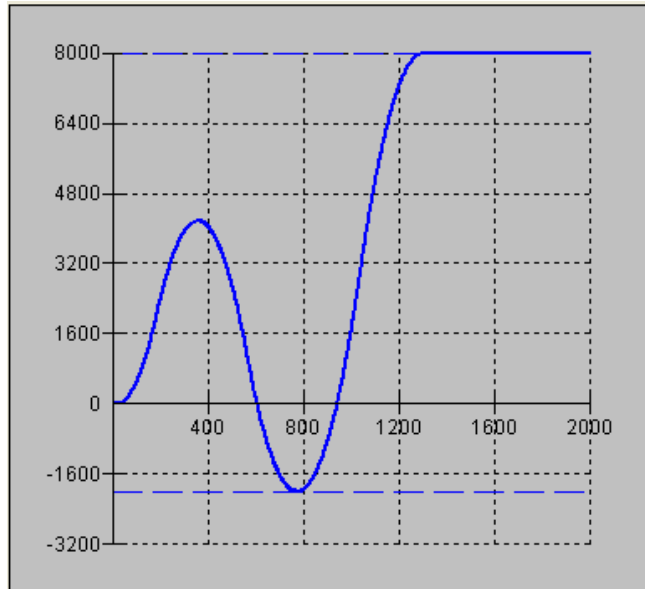
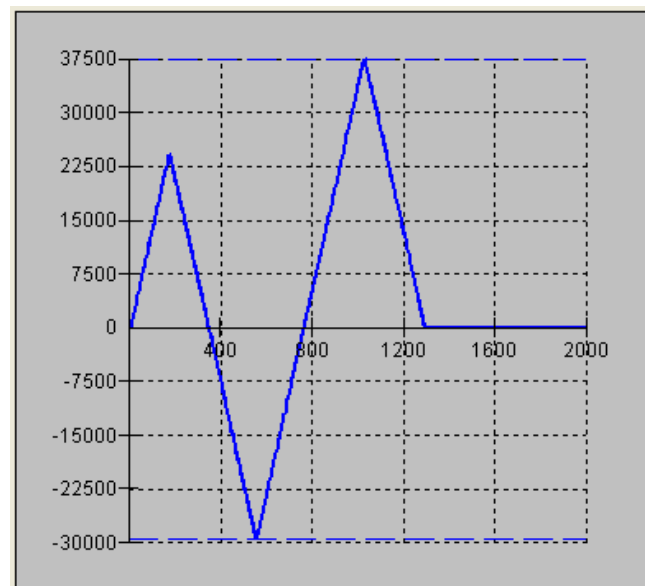
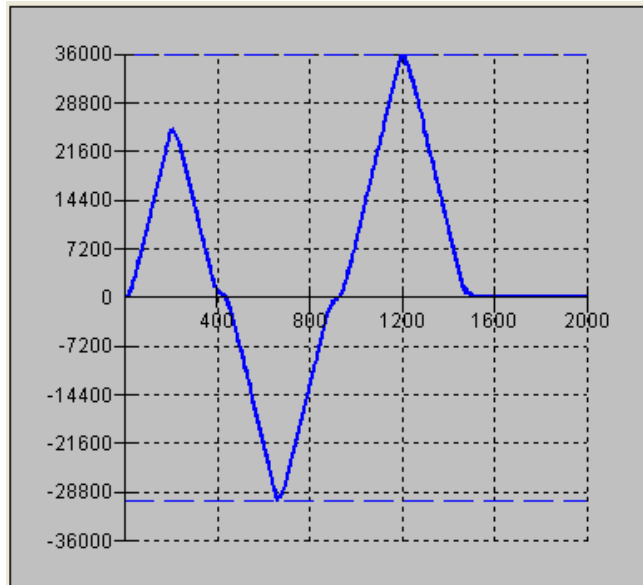

Figure 4 Position vs. Time (msec) Motion 4
Figure 5 Velocity vs. Time Motion 4
Figure 6 Velocity cts/sec vs. Time (msec) with IT Motion 4
In this motion, the host program commands the controller to begin motion towards position 5000, changes the target to -2000, and then changes it again to 8000. Figure 4 shows the plot of position vs. time, Figure 5 plots velocity vs. time, and Figure 6 demonstrates the use of motion smoothing (IT) on the velocity profile in this mode. The jerk in the system is also affected by the values set for AC and DC.